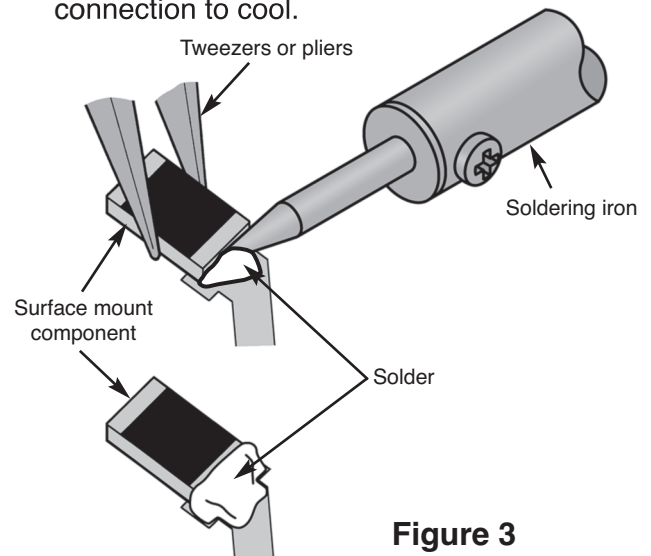

Figure 3
1. Apply a small amount of solder to the soldering iron tip as shown in Figure 3.